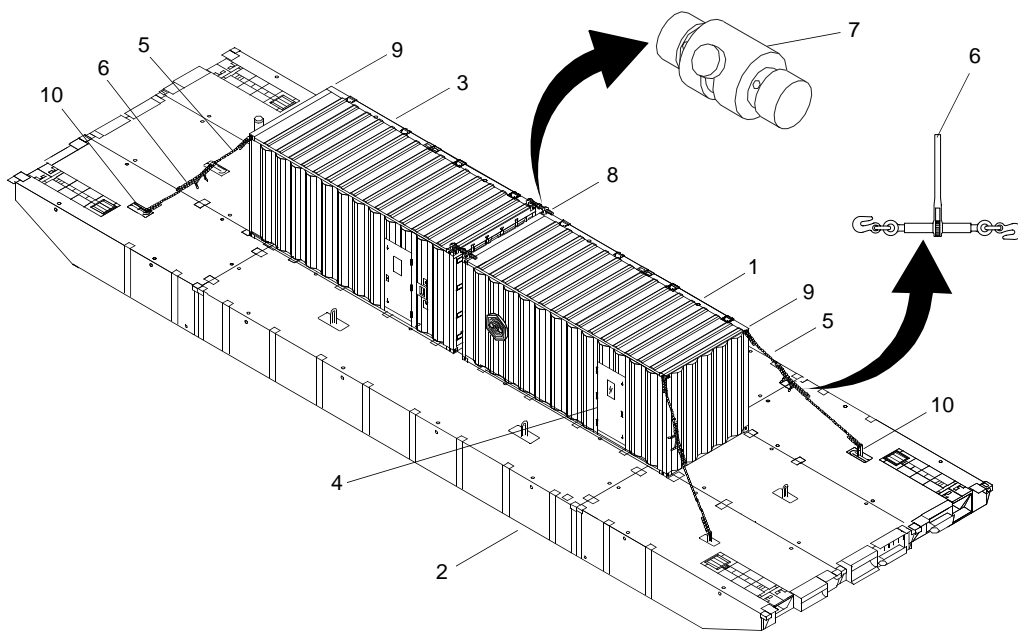

Figure 28. Personnel Shelter
1. Using crane, position personnel shelter (figure 28, item 1) on FC pierhead (figure 28, item 2) next to generator container (figure 28, item 3).
2. Secure personnel shelter (figure 28, item 1) and generator container (figure 28, item 3) to FC pierhead (figure 28, item 2).
- a. Unlock, undog and open personnel shelter exterior door (figure 28, item 4).
- b. Remove chains (figure 28, item 5), chain binders (figure 28, item 6) and horizontal twistlocks (figure 28, item 7) or bridgelocks from the personnel shelter (figure 28, item 1).
- c. Install horizontal twistlocks (figure 28, item 7) or bridgelocks between personnel shelter (figure 28, item 1) and generator container (figure 28, item 3) on inboard top ISO corners (figure 28, item 8). Tighten horizontal twistlocks (figure 28, item 7) or bridgelocks.
- d. Loop chains (figure 28, item 5) between outboard top ISO corners (figure 28, item 9) and end rake padeye lifting shackles (figure 28, item 10) on each side of personnel shelter (figure 28, item 1).
- e. Lock chains (figure 28, item 5) tight with chain binders (figure 28, item 6).
- f. Loop chains (figure 28, item 5) between outboard top ISO corners (figure 28, item 9) and end rake padeye lifting shackles (figure 28, item 10) on each side of generator container (figure 28, item 3).
- g. Lock chains (figure 28, item 5) tight with chain binders (figure 28, item 6).